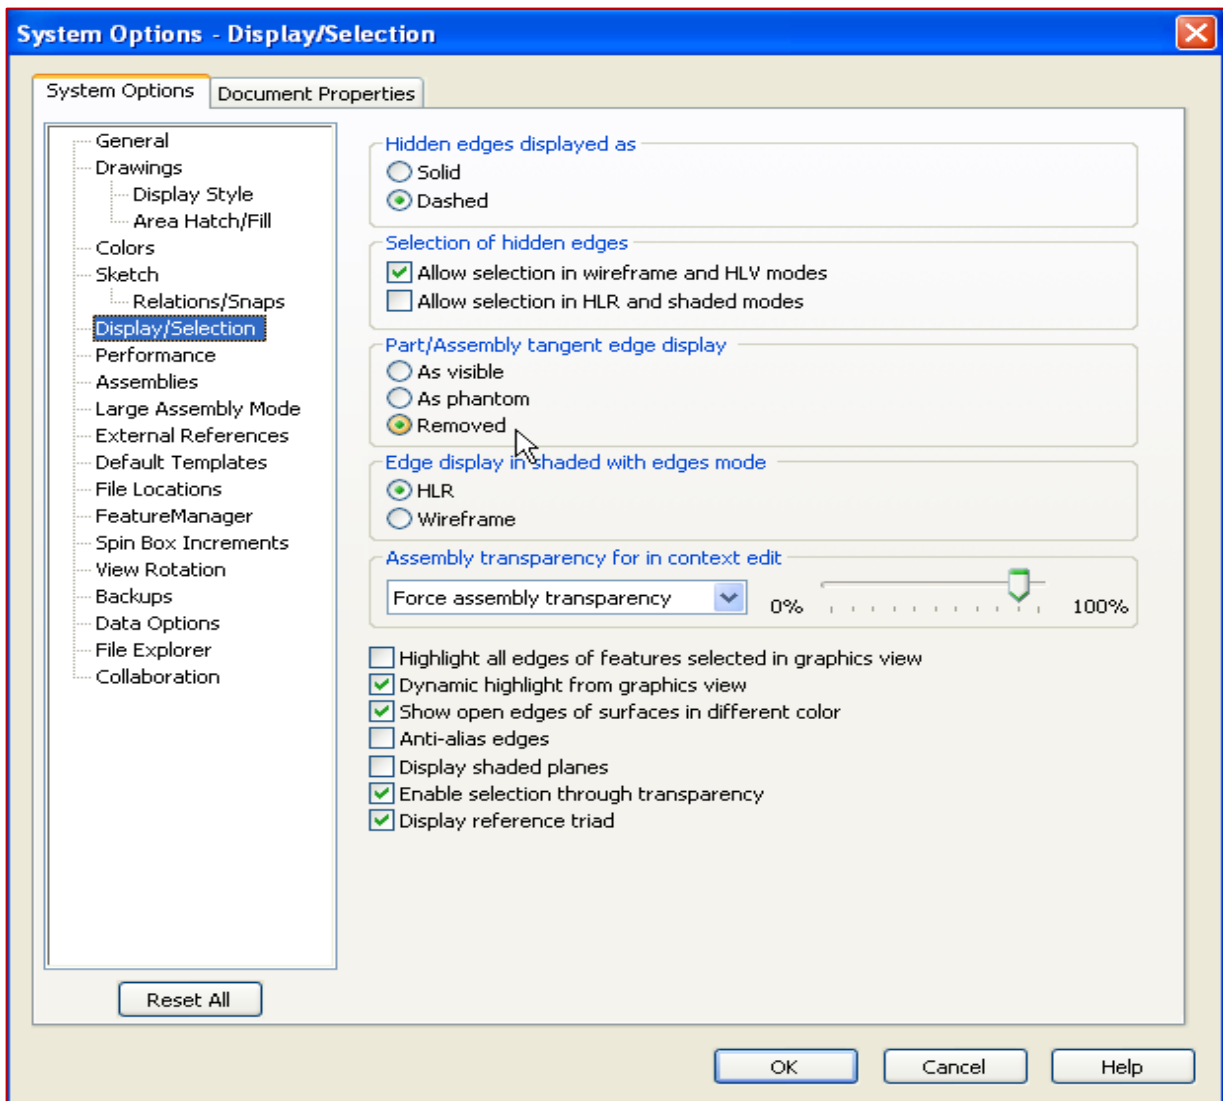

Figure 10.1 – Tools→Options
- ✓ Select the **Document Properties** tab and click **Units** to get Figure 10.1.